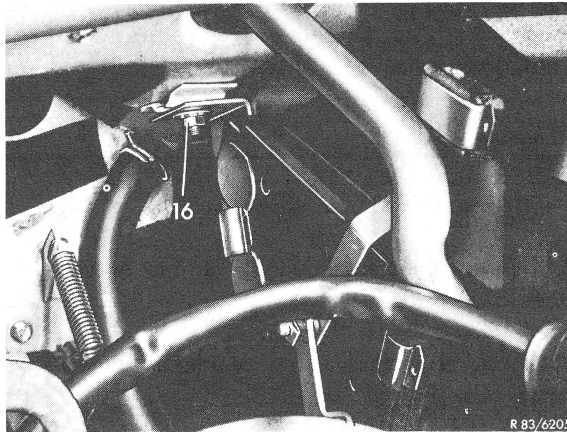

Fig. 5
- 20** Loosen both nuts (16) on holders for heater box (Fig. 5).